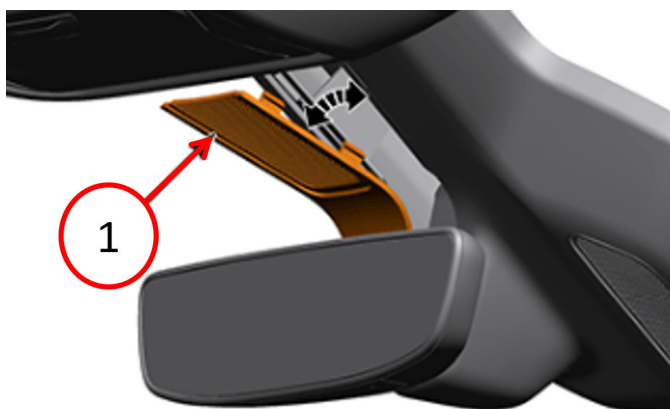

Fig. 1
1. Using a trim stick or equivalent, remove the rearview mirror upper bracket cover Fig. 1.